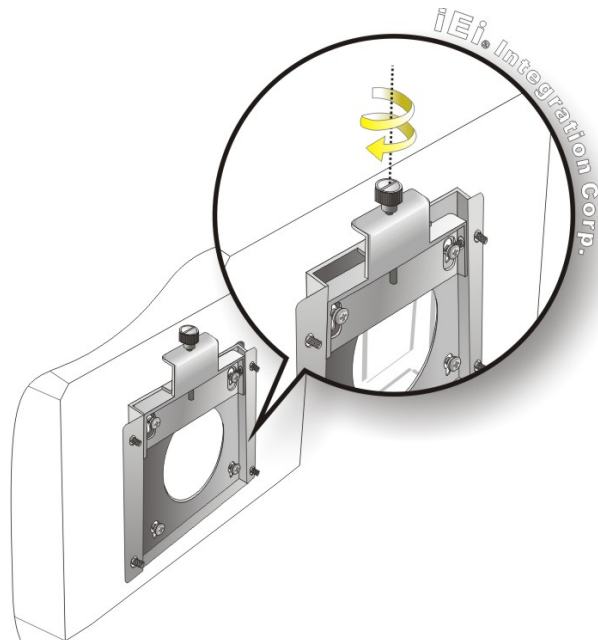

Figure 3-18: Secure the Panel PC
Step 9: Secure the panel PC by fastening the retention screw of the wall-mounting bracket (Figure 3-18).